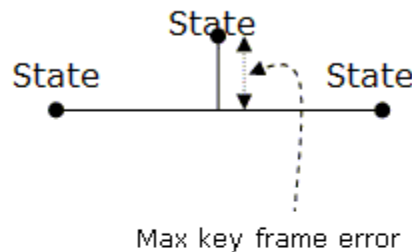

Fig 1
- The “Max key frame error” specifies the maximum error for the key frame reduction. A key frame for a given state is eliminated with respect to an element if the position of the element is linearly between the surrounding two states. The value entered here specifies the maximum error that can be considered as linear. (Refer to Fig.1)